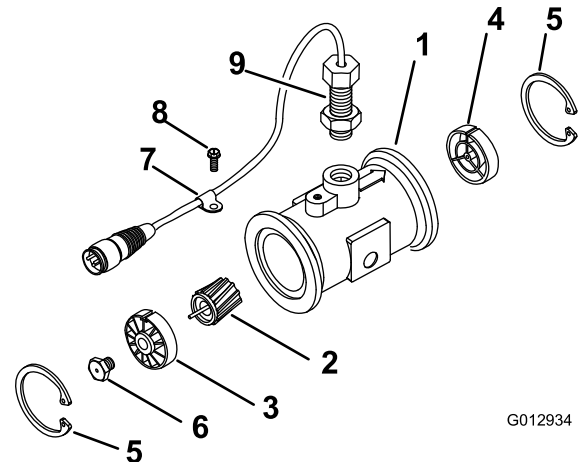

Figure 54
- Remove the retaining ring on the upstream side (Figure 54).